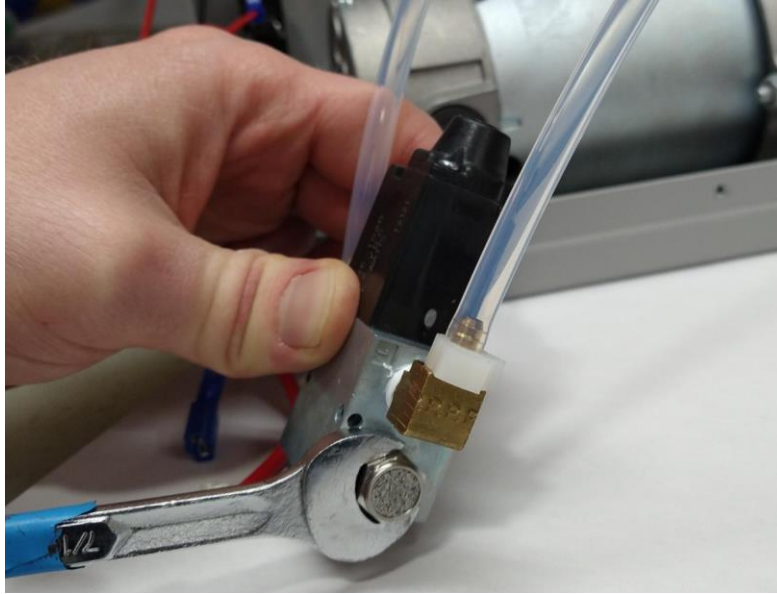

Figure 4-3: Removing breather vents
4. Unscrew the breather vents from the solenoid using a 7/16" wrench. See Figure 4-3.